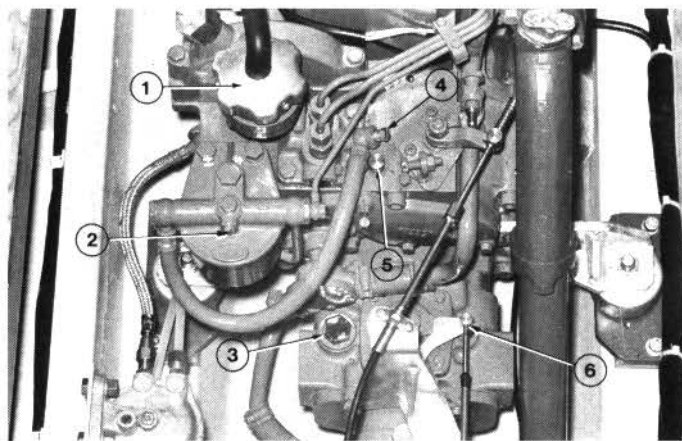
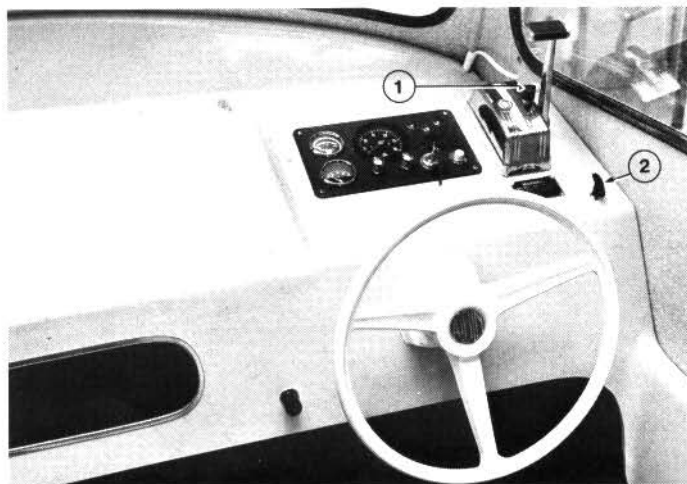
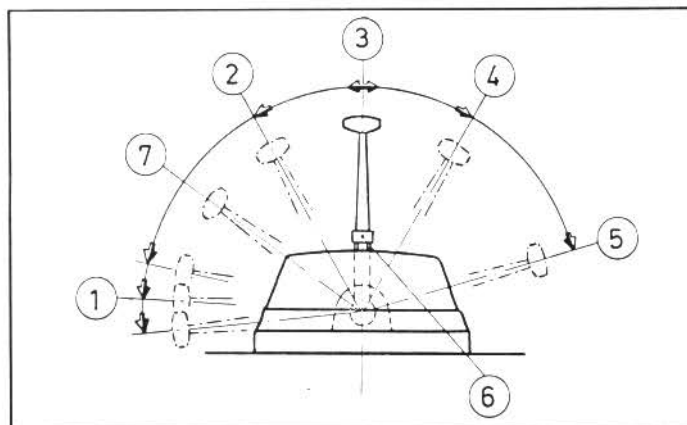

Fig. 3. Fuel vent screws and other details
Fig. 7. Control position with instruments
Fig. 8. Teleflex controls
7. When the engine is tested before delivery the fuel system is bled free of air. It would be wise to do this again before the first start. It is important to know how to bleed the fuel system in case you happen to get air in the system while away cruising. This can happen if the fuel level is too low and the boat is rolling heavily. Try not to allow the fuel level to fall below 10 to 15 litres. The bleeding is performed as follows (fig. 3 and 4): The fuel is pumped using the hand primer. With long strokes at least 30 vertical movements will be necessary. Then open the vent screw on the fine filter. Continue pumping until fuel free from air bubbles flows out. Close the screw. Open the vent screw on the fuel injection pump. Now pump again until fuel free from air bubbles flows out. Close the vent screw.
2. Check that the stop control is pushed in (fig. 7).
3. Disengage the control lever with the disengaging latch (fig. 7) and move the control lever ahead to the starting position (position 7 in fig. 8).
7. Move the control lever back to neutral when the engine is running evenly (position 3 in fig. 8).
NOTE: If the engine is difficult to start in cold weather the cold weather starting button on the fuel injection pump should be pushed in. This will supply a richer starting mixture. Set the control lever at the starting position (position 7, fig. 8) then push the cold weather starting button. It will remain in until it automatically releases when the engine starts. The position of the button is shown in fig. 3.
With the control lever in neutral (position 3, fig. 8) the propeller is not coupled to the engine and the engine is idling at about 600 rpm. Moving the lever forward to the distinct position 2 couples the propeller to the engine at idling speed. Moving the lever farther forward increases the engine speed. When the lever is moved backward to the distinct position 4 the propeller is coupled to the engine at idling speed. The propeller is now turning in a reverse direction. Moving the lever farther back increases engine speed.